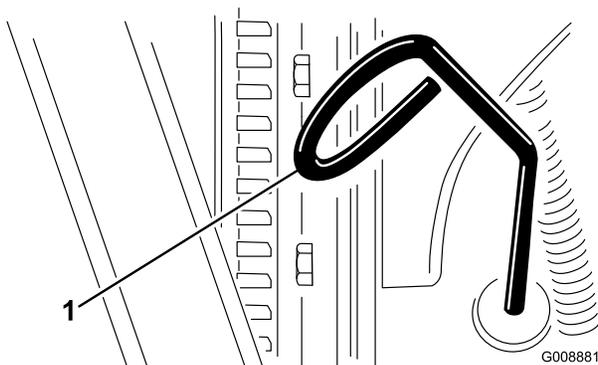

Figure 19
2. Remove the dipstick (Figure 19) and wipe it with a clean rag.